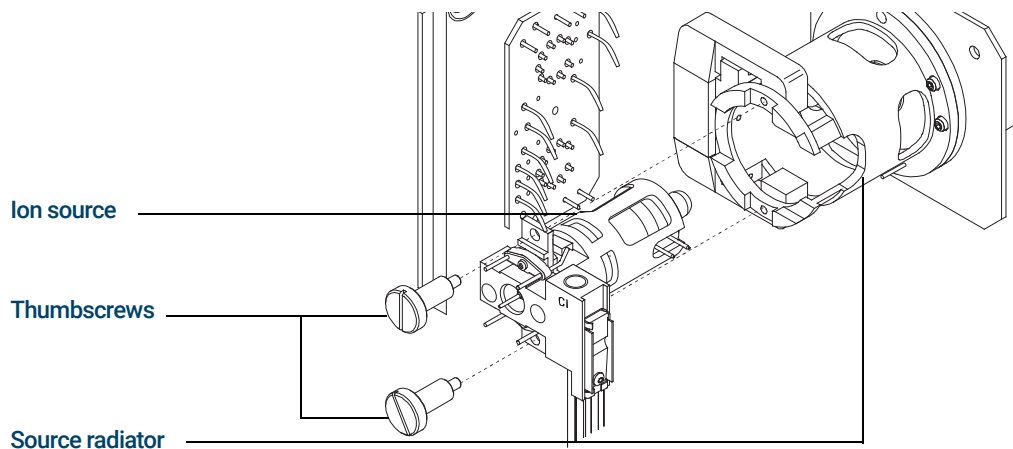

Figure 71. Installing the CI source
- 4 Install the thumbscrews. (See **Figure 71.**)